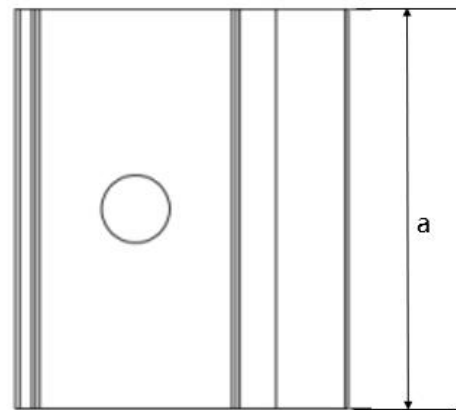

Fig. 7 Top view of fringe clamp
- ① Place the module on the two supporting rails (not provided by Astronergy) which should be made with stainless material and treated with an anti-corrosion process (e.g. hot dipped galvanizing). Each PV module needs at least four clamps to be fixed. The module clamps should not come into contact with the glass and should not deform the frame, otherwise they may cause module damage.
- ② Be sure to avoid shadowing effects from the module clamps. Weep holes on the module frame must not be closed or obscured by the clamps. The clamp must have an overlap of 8-11mm with the frame of the module and should not extend beyond it (The clamp section can be changed under the premise of ensuring reliable installation).
- ③ The top surface of the rail contacted with module frame should be equipped with grooves compatible with an M8 bolt.
- ④ If the grooves are not provided, holes of a suitable diameter may need to be drilled to allow bolts attaching to the rail at the same locations as mentioned above.
- ⑤ Ensure that the mounting sequence of each clamp is in the order of flat washer, spring washer and nut.
- ⑥ Figures 7 and 8 show the schematic diagram of the